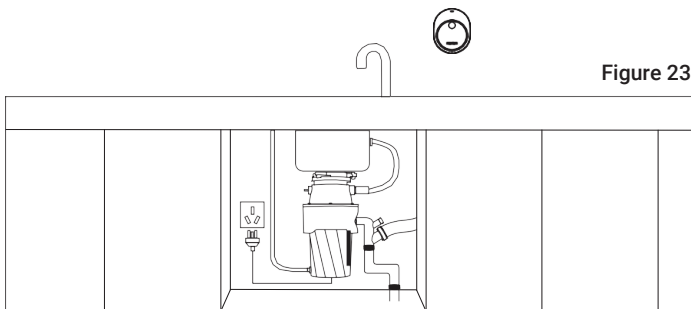

Figure 23
3. In order to avoid misoperation by children, it is recommended to paste the wireless switch at a position more than 1.2m from the ground. Before pasting, wipe the wall with a cloth and then stick it to the wall surface according to the direction indicated by the arrow (see Figure 23).
- 2 Find the proper power socket and connect the power cord (see Figure 23).